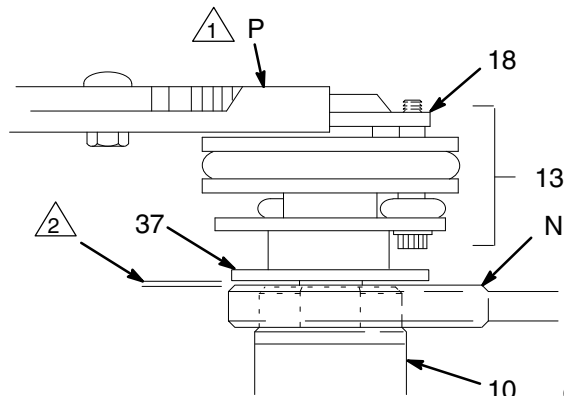

FIG. 6
1. Remove the shield capscrew (28) and the shield (56).
2. Unscrew the air cap (11) from the air cylinder (47). To remove the spring (35), gently pry under the coils in the direction of the helix. Check the spring and gasket (60) and replace as necessary.
3. Unscrew the air cylinder (47) from the base.
4. Hold the air exhaust plate (18) with a pliers (P) and the flats of the air piston rod (10) with a wrench (N), and unscrew the piston and valve assembly (13). See Fig. 6. Remove the washer (37) and spring (36).
7. When reassembling, apply locking compound to the threads of the screws and torque to 10–14 in-lb (1.1–1.6 N•m). With the washer (37) in place, apply thread sealant to the threads of the piston. Carefully screw the piston (11) onto the shaft (23) by hand so it is securely fastened. **Do not use a pliers on the air exhaust plate while tightening.** When installed, there should be a 0.8 mm (0.032 in.) minimum clearance between the washer (37) and the piston shaft shoulder. See Fig. 6.